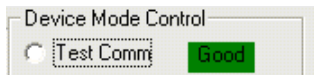

FIGURE 29.
- **Test Communication** with the IC by clicking the button shown in Figure 29; if it shows “good”, then the hardware and software are properly set up; if it says “fail”, then check your connections. If the problem still persists, then you may want to restart the software.